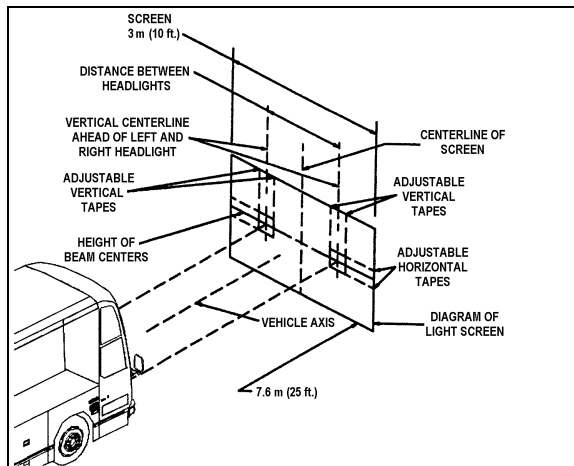

FIGURE 32: ALIGNMENT OF HEADLIGHT AIMING SCREEN 06502
3. The headlight centerlines shall be spaced either side of the fixed centerline on the screen by ½ the lateral distance between the light source centers of the pertinent headlights. The horizontal tapes should be located on the screen at the upper and lower limits called for in the specification with reference to the height of beam centers and the plane on which the vehicle rests, not the floor on which the screen rests (Fig. 32).
7. The inspection limits in the vertical direction for low-beam headlights or the low beam of a dual-beam headlight, shall be as described in Table 1. In the horizontal direction, the left edge of the high-intensity zone shall be located from 10 cm (4 in) left to 10 cm (4 in) right of the vertical centerline of the beam. The viewing screen shall be located 7.6 m (25 ft) in front of the vehicle (Fig. 32).